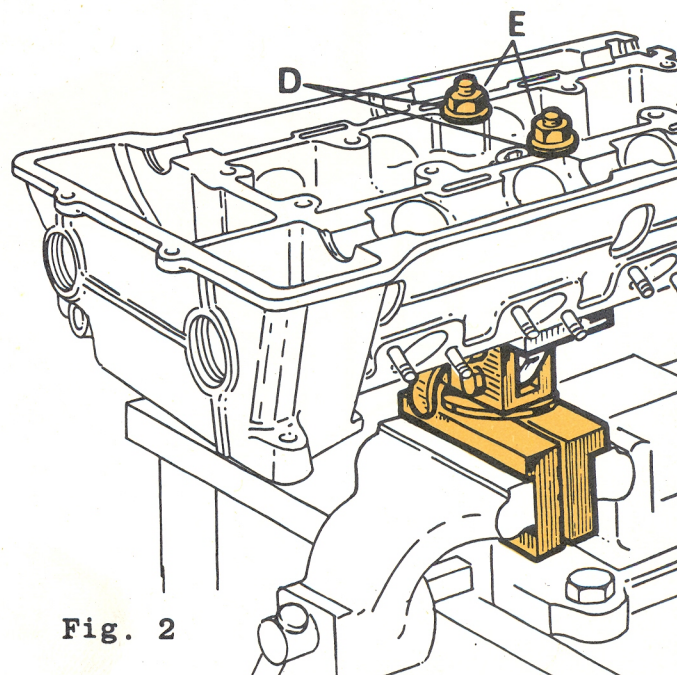

Fig. 2
- 4 Place the head being overhauled on the tool so prepared; for best balancing of the weights use the centre holes in the head as shown at figure 2.